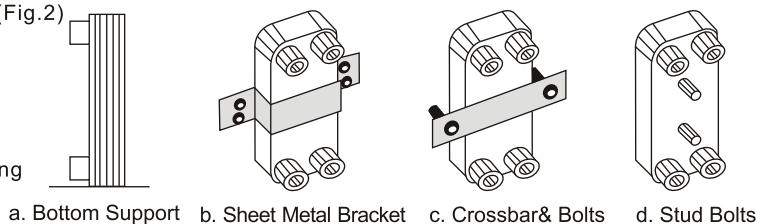

Fig. 2 Recommended Installation Position
2. Recommended installation position(Fig.2)